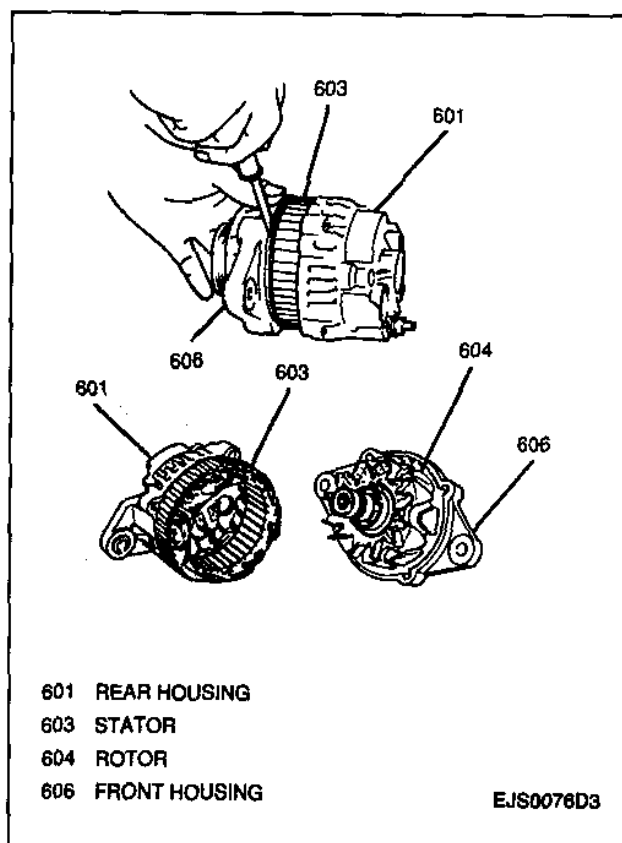

Figure 7—Removing Front Housing (With Drive Pulley and Rotor)
3. Using a flat-bladed tool, gently pry off the front housing (with drive pulley and rotor) from the stator coil and rear housing (Figure 7).